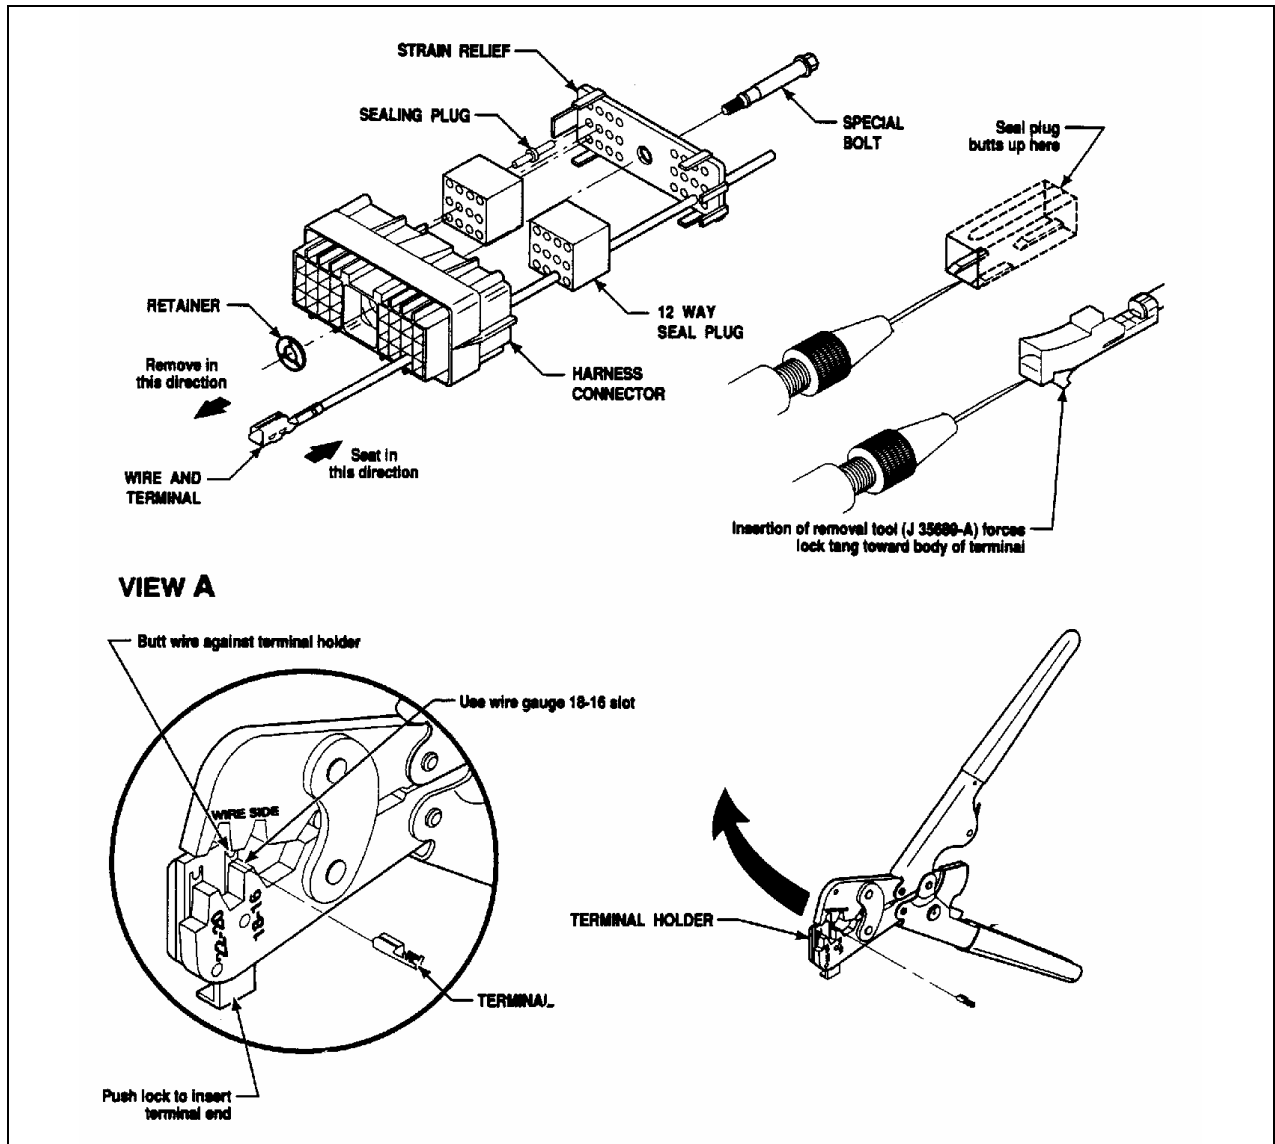

FIGURE 4: Packard connector preparation
- c) *After having inserted the wires, remove 3/16" of isolating sleeve and crimp a #562532 terminal onto each wire (figure 4). If it is necessary to cut the end of wires, make sure that the wire or circuit number is still visible on the wires.*